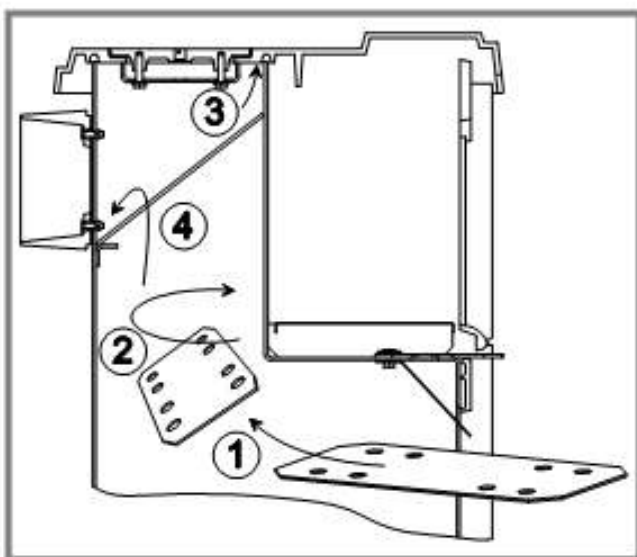

Figure 4 - Mounting the flue baffle
- ✦ Replace the internal baffle. (fig. 4).
Check the condition of the filler seals, that the door closes correctly, that the window is not damaged, that the smoke passages are not obstructed by packaging or removable parts.. All removable parts, fuel retainer, baffle (fig. 4), must be correctly installed.